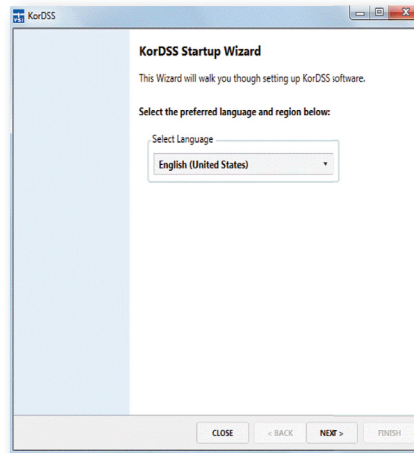

Figure 84 KorDSS language preference
1. After Windows has successfully updated the driver software, start KorDSS and set the language preference (Figure 84). Click **Next**.